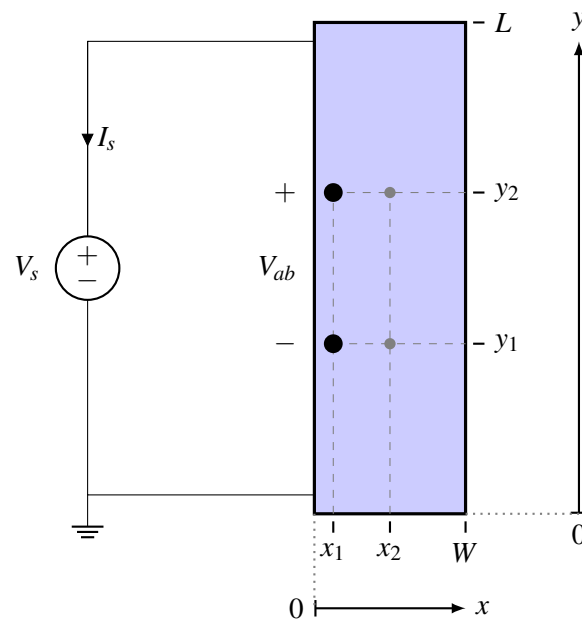

Figure 5: Top view of resistive touchscreen showing voltage V_{ab} .
- (c) Assume V_{ab} is the voltage measured between the nodes represented by touchscreen coordinates (x_1, y_1) and coordinates (x_1, y_2) , as shown in **Figure 5**. Calculate the absolute value of V_{ab} . As with the previous part, you should first draw the circuit diagram representing Figure 5, which includes V_{ab} . Calculate all resistor values in the circuit. *Hint: Try representing the segment of the touchscreen between these two coordinates as a separate resistor itself.*
- (d) Calculate (the absolute value of) the voltage between the nodes represented by touchscreen coordinates (x_1, y_1) and coordinates (x_2, y_1) in **Figure 5**.
- (e) Calculate (the absolute value of) the voltage between the nodes represented by touchscreen coordinates (x_1, y_1) and coordinates (x_2, y_2) in **Figure 5**.